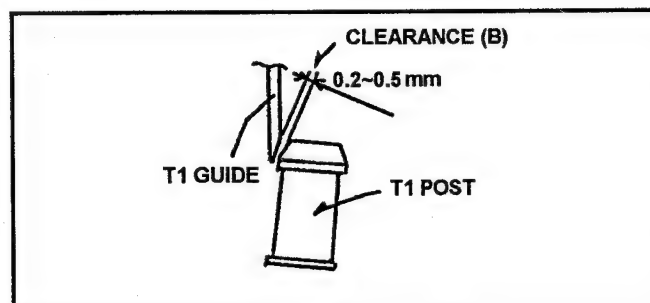

Fig. M19
1. Observe the clearance (B) between T1 Guide and T1 post as shown in Figure M19. And make sure that it is within 0.2 to 0.5mm.
2. If not, loosen the 2 screws (A) and adjust the position of T1 Guide by moving to arrow direction (G ⇄ G) so that the clearance (B) is within specification. And tighten the 2 screws (A).